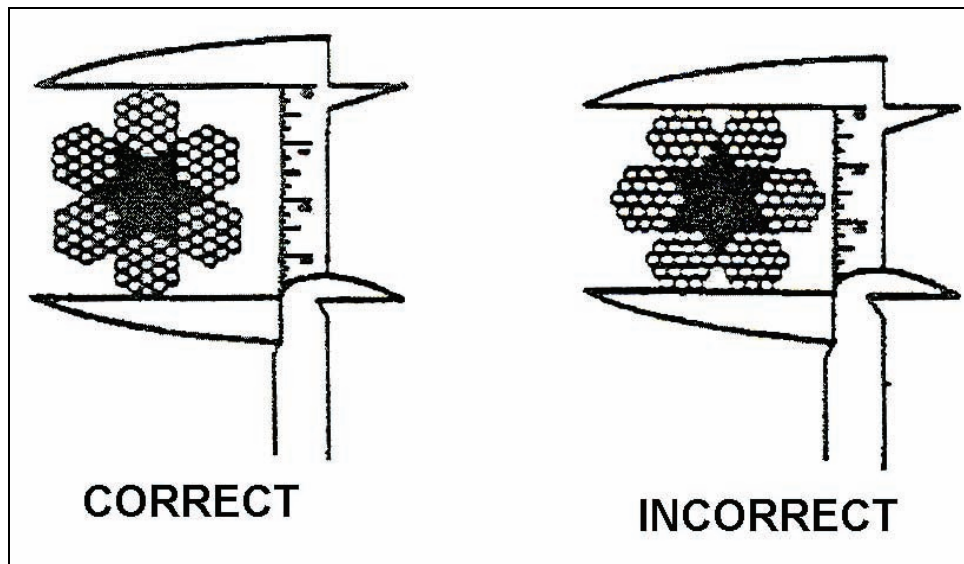

Figure 3-116. Using a Slide Caliper
- a. Measure the diameter of the wire rope using a slide caliper (see Figure 3-116).